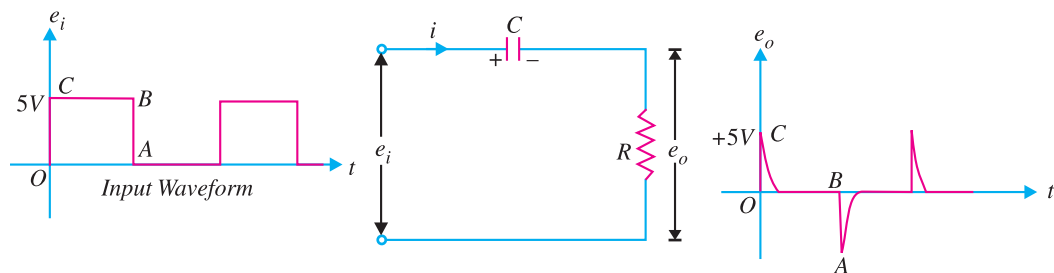

Fig. 18.19
**(i) When input is a square wave.** When the input fed to a differentiating circuit is a square wave, output will consist of sharp narrow pulses as shown in Fig. 18.19. During the  $OC$  part of input wave, its amplitude changes abruptly and hence the differentiated wave will be a sharp narrow pulse as shown in Fig. 18.19. However, during the constant part  $CB$  of the input, the output will be zero because the derivative of a constant is zero.